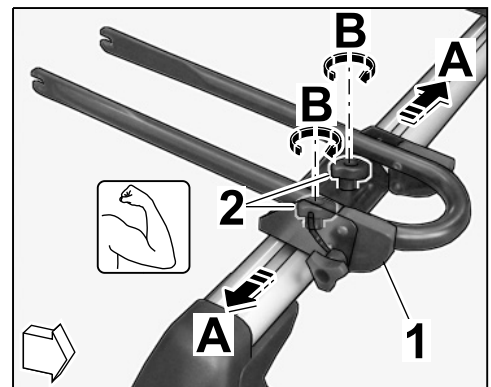

Figure 27
6.1.3 Push/pull the front wheel holder to the desired position on the roof transport system (⇒ Figure 27 -A-) and tighten the M6 butterfly nut (⇒ Figure 27 -B-).